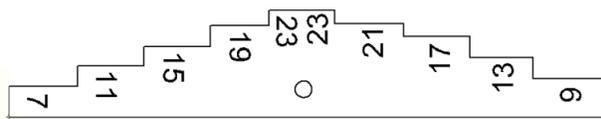
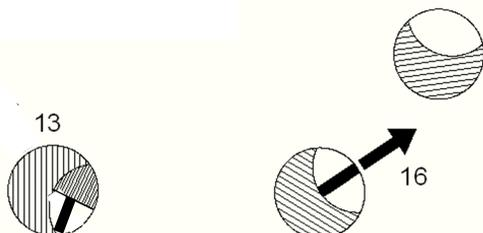

FIGURE 12, Calibration Gauge
FIGURE 13, Spreader Setting
- Open the Hopper and using the Calibration Gage (**FIGURE 12**) provided with the machine as shown in **FIGURE 13**, set the center hole opening to **16**. Position the Rate Adjustment Knob against the Hopper Lever and tighten the knob.
- Without changing the Rate Adjustment Knob setting, open the Third-hole and insert the Calibration Gage, orientated as shown in **FIGURE 13**, in the Third-hole.